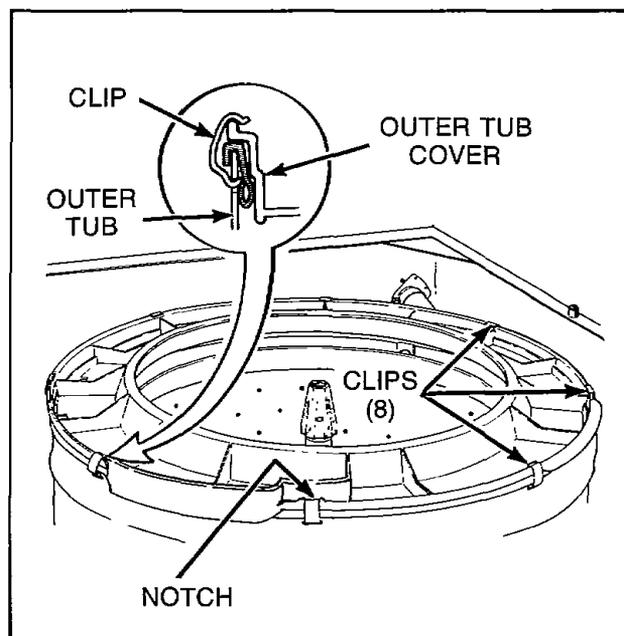

Figure 26
- Remove the eight clips holding outer tub cover to tub, *Figure 26*, and lift cover off tub.
NOTE: When installing outer tub cover, always use a new cover gasket. Lubricate the gasket with rubber lube or liquid soap to aid in assembly. Cover must be placed on outer tub so notch on top edge of outer tub cover is directly over left front clip hole in tub, *Figure 26*. Starting with this hole, place each spring clip in its respective hole and snap in place. See *Figure 26* for proper clip installation.
- Disconnect filler hose from backflow preventer, then remove the eight clips holding cover to outer tub, *Figure 26*.
NOTE: When installing outer tub cover, lubricate the cover gasket with liquid soap to aid assembly. Cover must be placed on outer tub so notch on top edge of outer tub cover is directly over left front clip hole in tub, *Figure 26*. Starting with this hole, place each spring clip in its respective hole and snap into place.
- d. Loosen hose clamp and disconnect filler hose from backflow preventer, then remove the eight clips holding cover to the outer tub, *Figure 26*.
NOTE: When installing outer tub cover, always use a new cover gasket. Lubricate the gasket with liquid soap to aid in assembly. Cover must be placed on outer tub so notch on top edge of outer tub cover is directly over left front clip hole in tub, *Figure 26*. Starting with this hole, place each spring clip in its respective hole and snap in place. See *Figure 26* for proper clip installation.